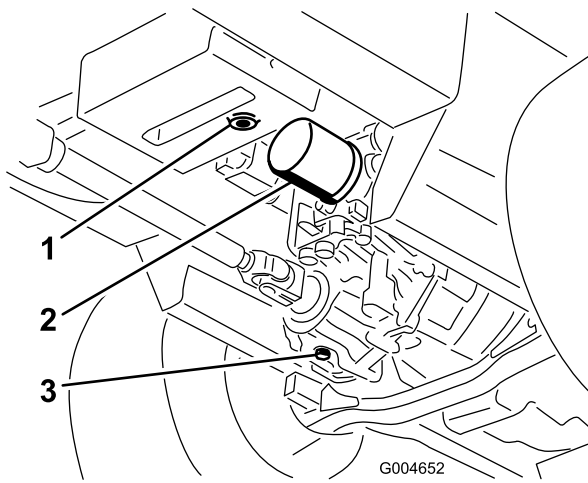

Figure 71
3. Place a large pan under the hydraulic reservoir and transmission case and remove the plugs, draining all of the hydraulic fluid (Figure 71).
4. Clean the area around the hydraulic oil filter and remove it (Figure 71).